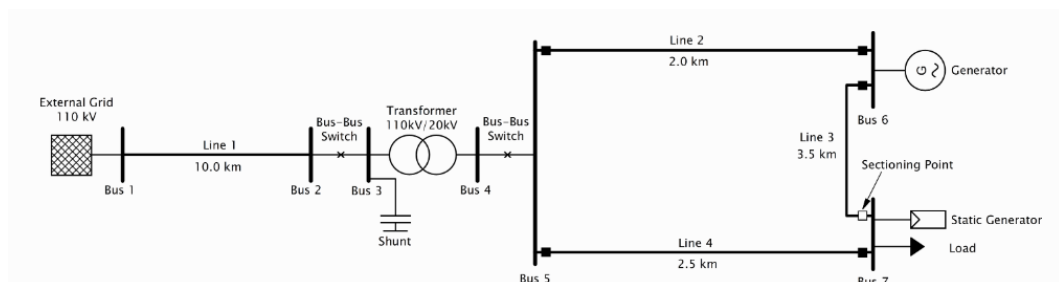

Figure 8 Simple example network
- Simple example network (Figure 8)**Error! Reference source not found.**